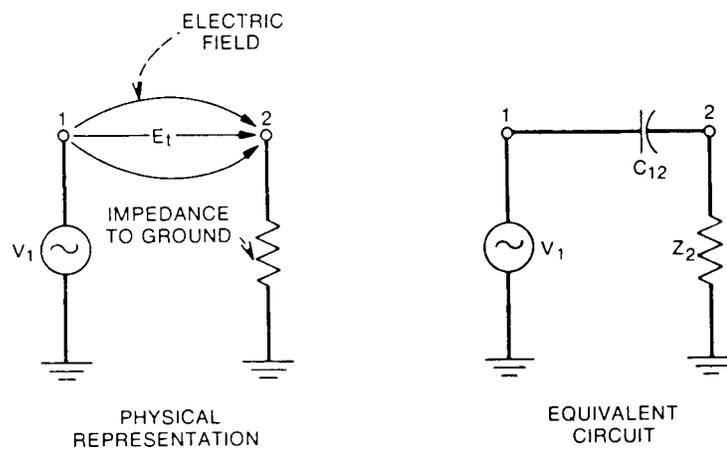

Figure 1-13. When two circuits are coupled by an electric field, the coupling can be represented by a capacitor.
- Figure 1-13 illustrates E-field coupling between a source and a grounded circuit